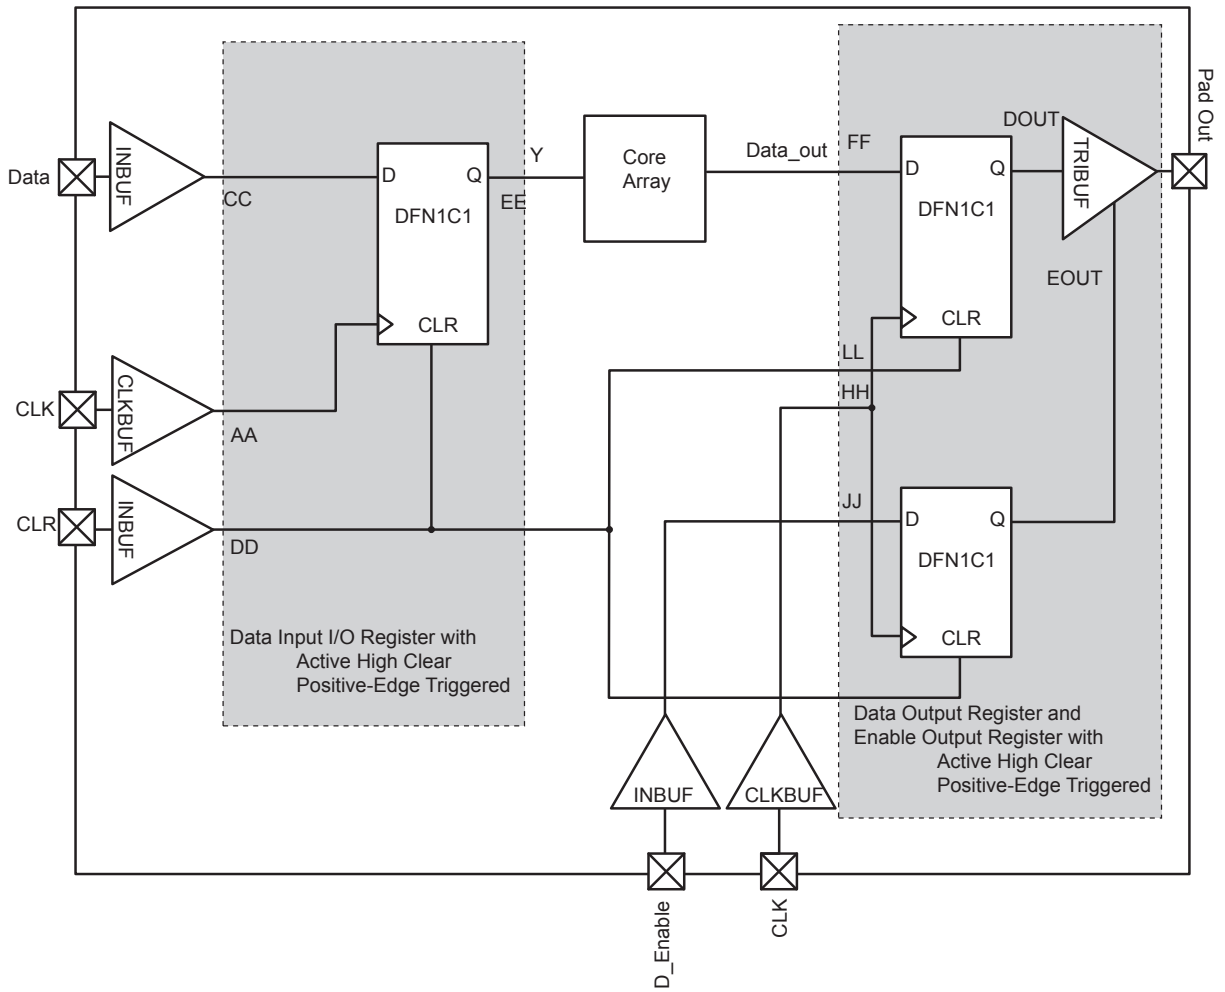

Figure 2-13 • Timing Model of the Registered I/O Buffers with Asynchronous Clear
*Note: *See Figure 2-13 on page 2-43 for more information.*